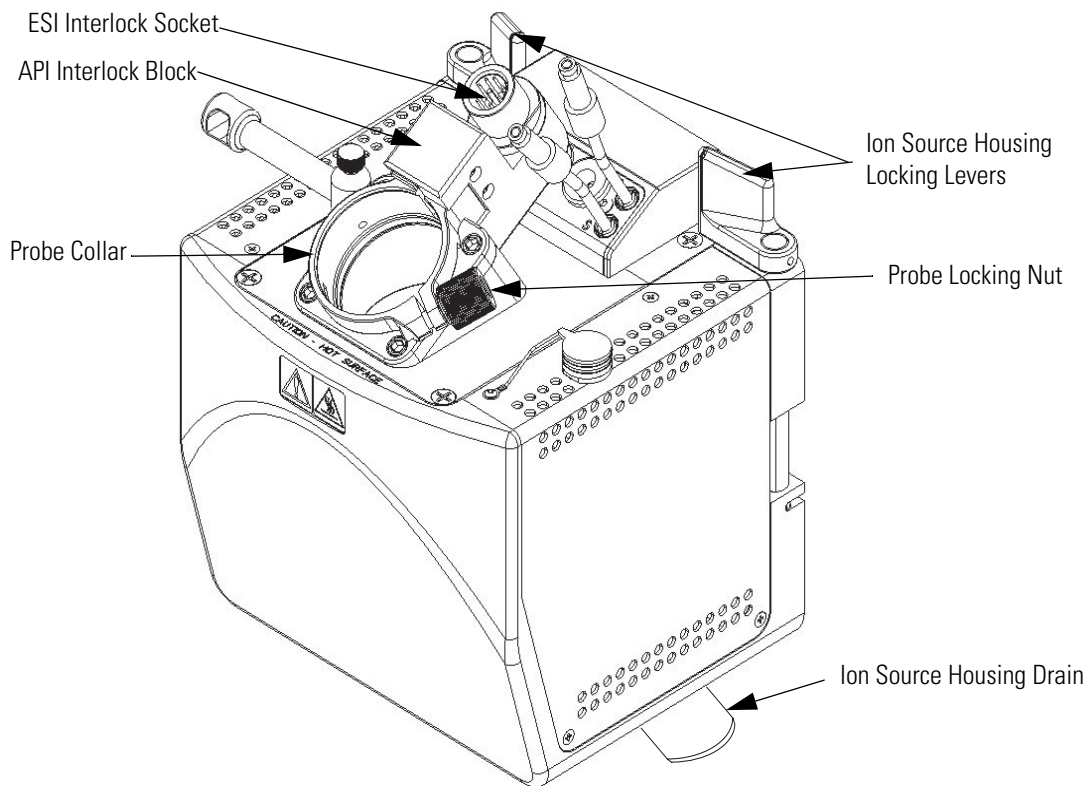
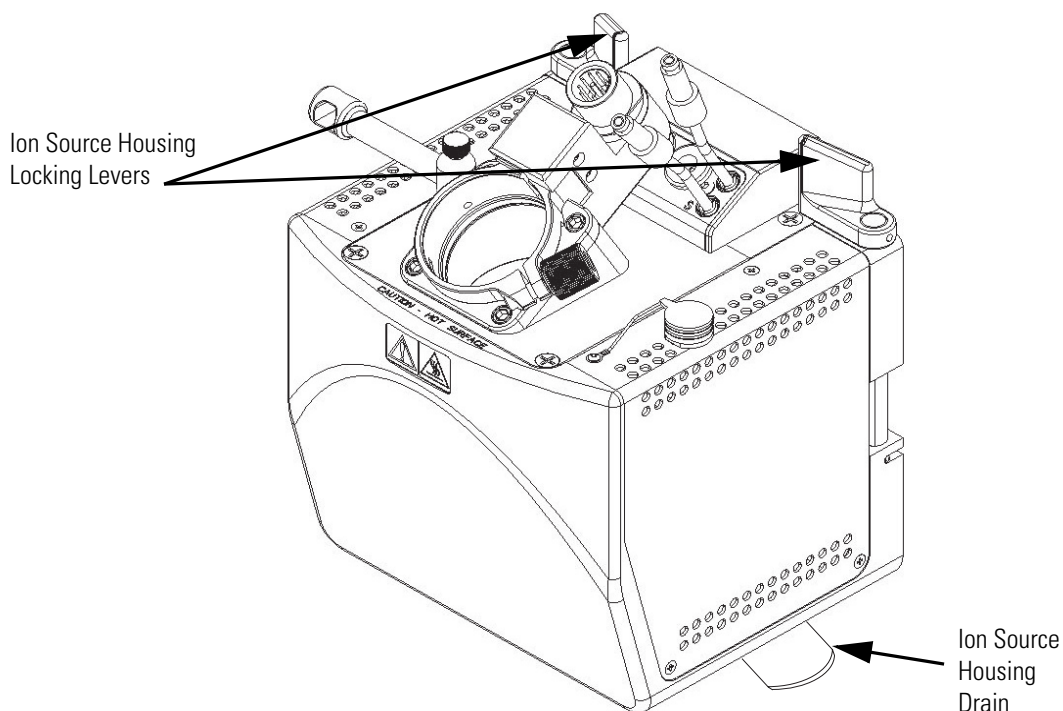

Figure 6. Ion Max-S ion source housing, detail of components
Figure 8. Ion Max-S ion source housing, detail of components
- a. Connect the vaporizer heater cable to the ESI interlock socket on the ion source housing. See Figure 6.
- a. Unlock the ion source housing by turning the ion source locking levers 90 degrees (see Figure 6). Also see the next Section, Removing the Ion Max Ion Source Housing and Figure 8.
1. Detach the drain tube from the ion source housing drain. See Figure 8.